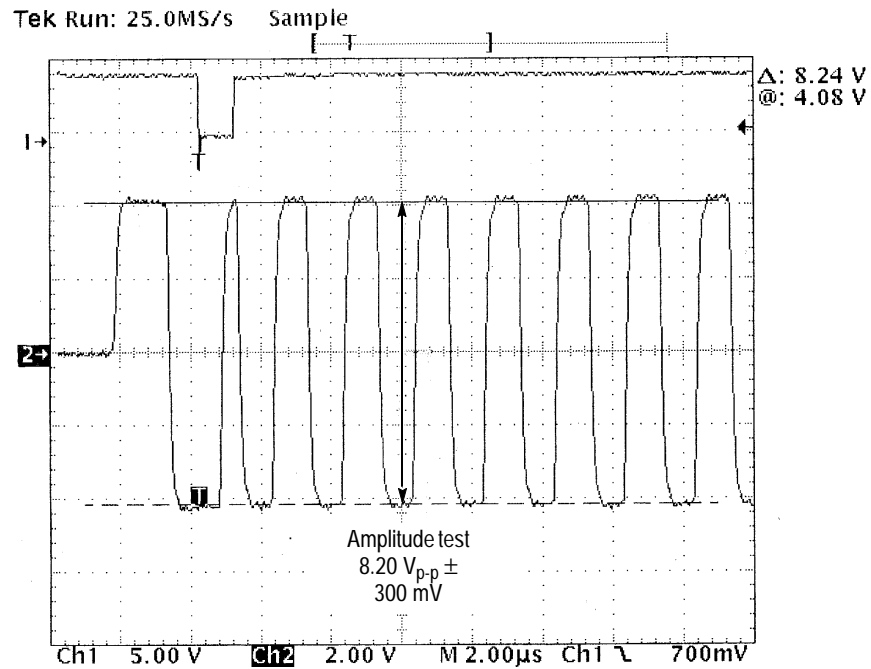

Figure 455-9: Amplitude Test, Volts Peak-to-Peak
2. Measure the peak-to-peak amplitude. Verify that the reading is $8.20 V_{p-p} \pm 300 \text{ mV}$. Refer to Figure 455-9.
3. Measure the peak-to-peak amplitude of the 1553 message on channel 2. Verify that the reading is $8.20 V_{p-p} \pm 300 \text{ mV}$. Refer to Figure 455-9.